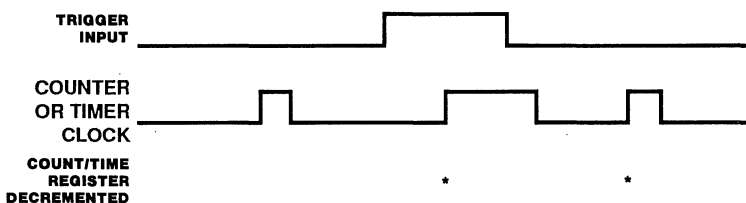

Figure 32. Trigger Operation
**Trigger Operation.** A counter/timer can be programmed to count or time only after a triggering condition occurs. While the counter/timer is enabled and the external trigger capability is programmed, an external input line is monitored; only after this line makes a Low-to-High transition is a counting or timing operation performed. The software trigger facility causes the triggering condition to be met regardless of the activity of this line. The trigger operation is illustrated in Figure 32.